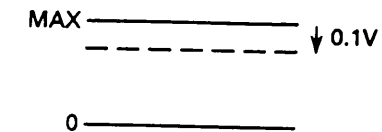

Fig 2.
- 4: Lower the voltage gradually by 0.1v below the maximum level. See fig. 2.